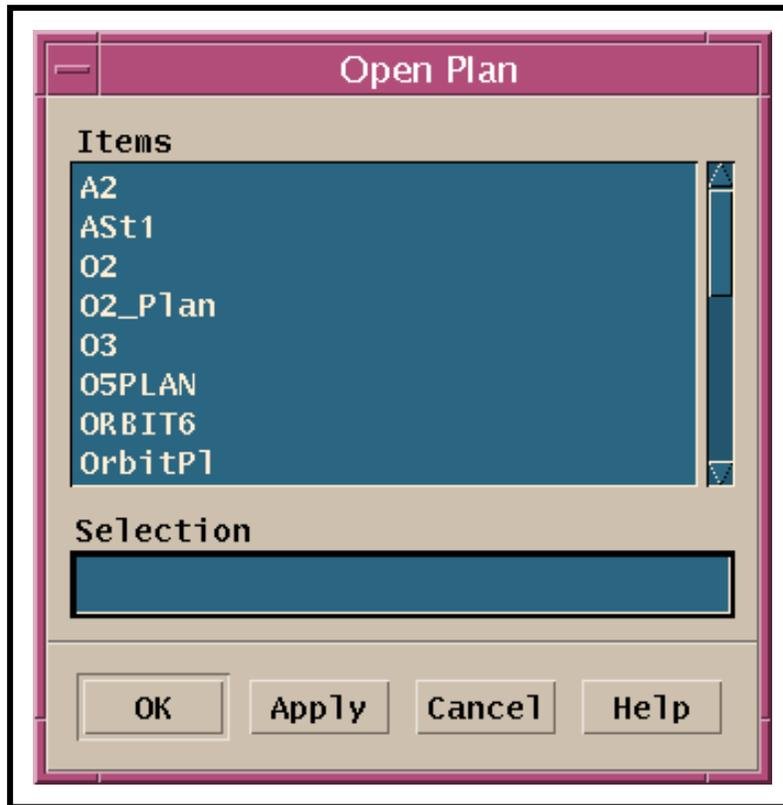

Figure 49. Open Plan Window
- The **Open Plan** window (Figure 49) is displayed.